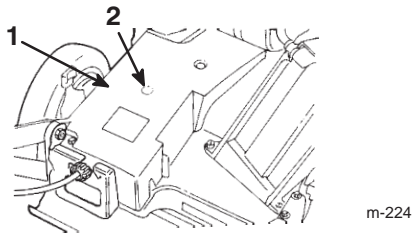

Figure 27
2. Install a grease gun onto the fitting through the belt cover opening (Fig. 27).